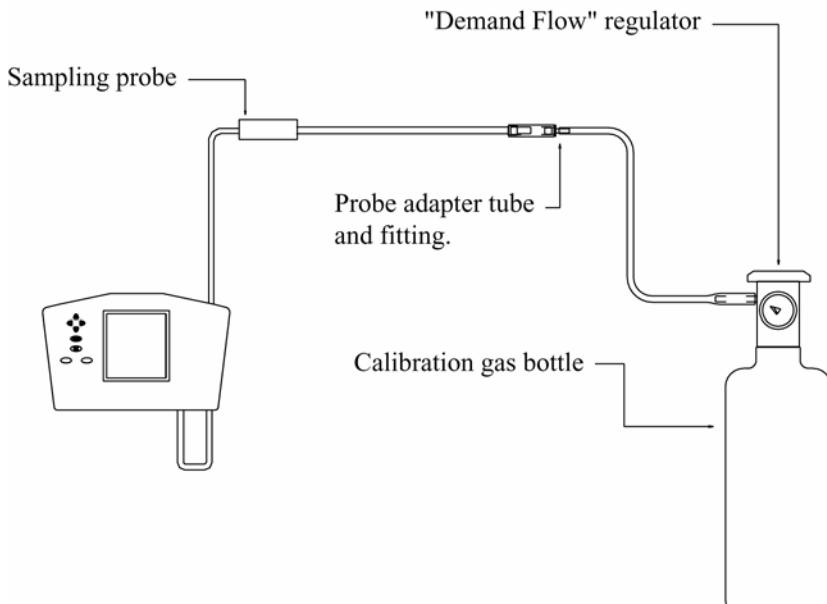
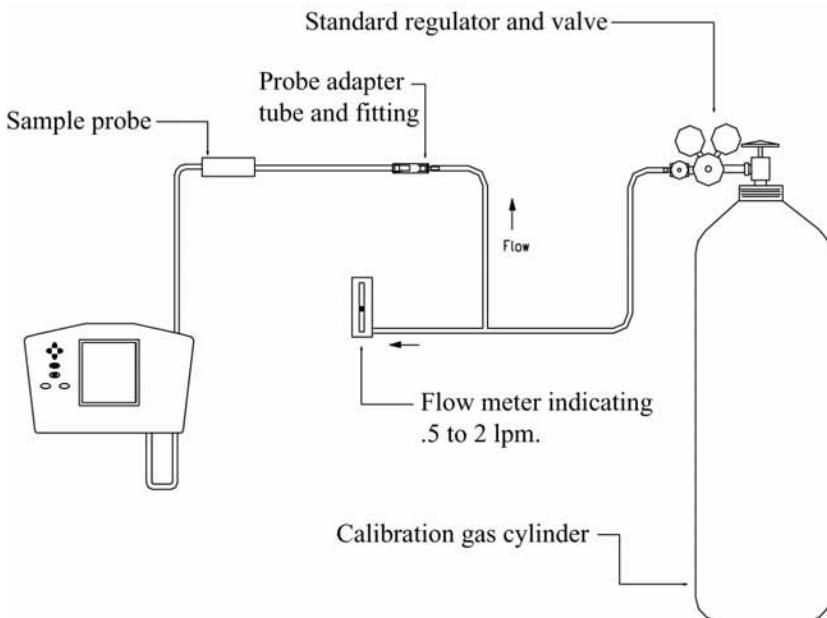

Figure 5. Calibration with TSI Calibration Kit
Figure 6. Alternative Calibration Setup
With the proper equipment, such as that shown in Figures 5 and 6 below, it is easy to calibrate your CA-CALC gas sensor. If you wish, you may also return your instrument to TSI for a new *factory* calibration, or purchase a new factory calibrated sensor.
The equipment needed to calibrate individual gas sensors can be purchased from TSI as calibration kits, or you may elect to put together your own calibration system. Model numbers for TSI sensor calibration kits are found in Chapter 2, "Unpacking." Two calibration setups are presented in Figures 5 and 6. A brief discussion of these calibration setups is presented in the following section.
A TSI supplied calibration kit (Figure 5) uses a *Demand Flow* regulator to supply gas to the CA-CALC analyzer in response to the draw of the instrument sampling the pump. If a conventional regulator and valve are used (Figure 6), the setup supplies gas to the instrument using a tee to a vent extra gas. This prevents a forced flow at the instrument inlet. The bead-type flow meter depicted in the figure is used to verify there is extra flow (.5 to 2 LPM recommended). Extra flow is required to prevent room air from being drawn in, diluting the sample.
3. Unless calibrating an O₂ sensor (Model 6120), disconnect the sampling line so only room air is sampled. If you *are* calibrating an O₂ sensor, connect your N₂ (nitrogen) calibration bottle to the sampling probe (refer to Figures 5 or 6).
6. Connect your calibration gas to the sampling probe as shown in Figures 5, and 6 described earlier. If calibrating an O₂ sensor, *disconnect* the N₂ gas bottle.